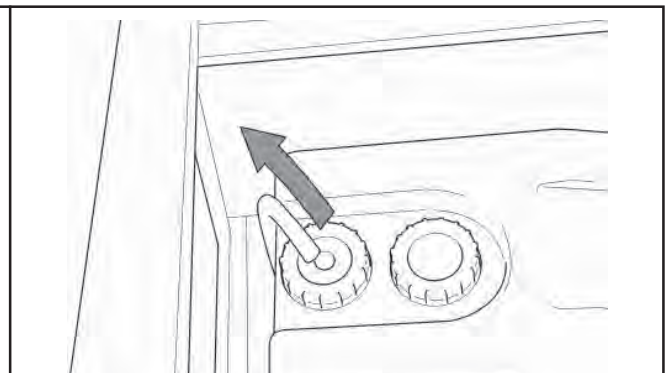

Fig. 2 Remove connection pipe.
8. The system is now ready for use. Hose can be inserted into plug groove (fig. 2) to keep filter off the ground while refilling water container. Keep socket lid shut at all times when plug is removed.